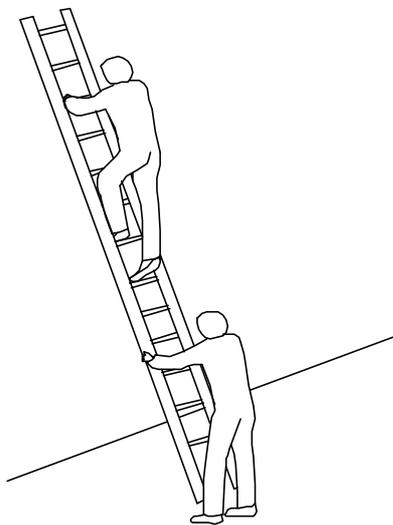
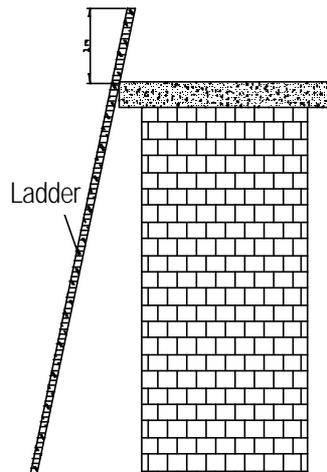

Figure 4 Climbing and using the long ladder in a safe way
Figure 5 Placing the ladder with the top 1 meter higher above the edge of the roof-top
- When climbing the ladder, one's center of gravity should not deviate from the ladder edge. To avoid danger and ensure safety, make sure that three parts of the body should be kept on the ladder, that is, the feet should be pressed against the ladder and one hand fast grips the ladder, as shown in Figure 4. Never climb the topmost four rungs of a ladder. If one is about to climb to the roof, the length of the ladder should be at least 1 meter higher above the eave, as shown in Figure 5.